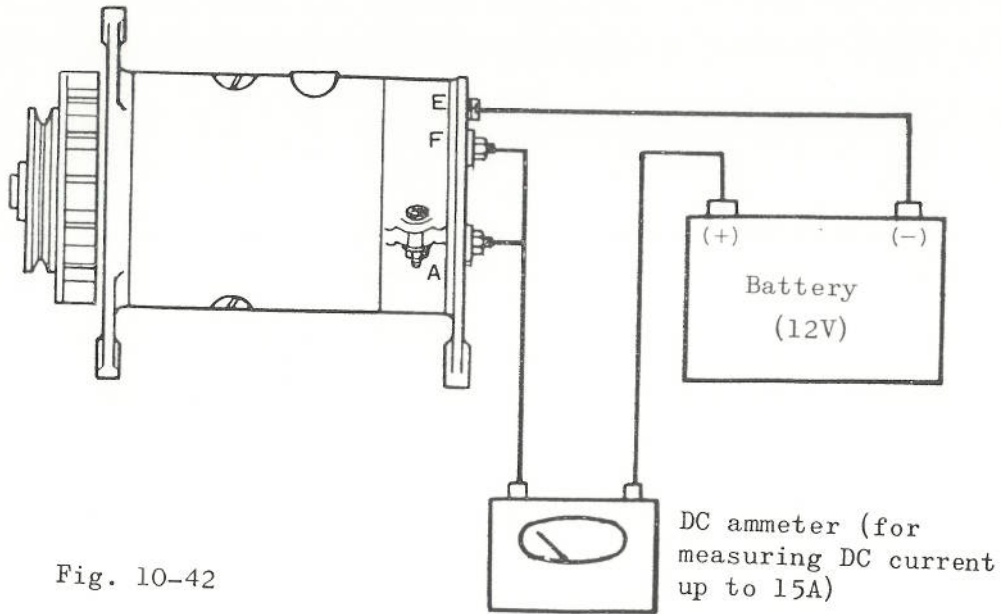

Fig. 10-42
- (1) With use of fully charged 12V battery, short-circuit the terminals F and A and then, connect the ammeter between the terminal A and the battery. The alternator and its associated parts may be regarded as normal if the alternator operates smoothly without abnormal operating noise and measurements indicate between 4A - 6A when the alternator is rotated at speeds within 750 rpm to 950 rpm. (See Fig. 10-42)
- (2) If the charging current is in excess of specified value, the trouble may be attributed to the following.